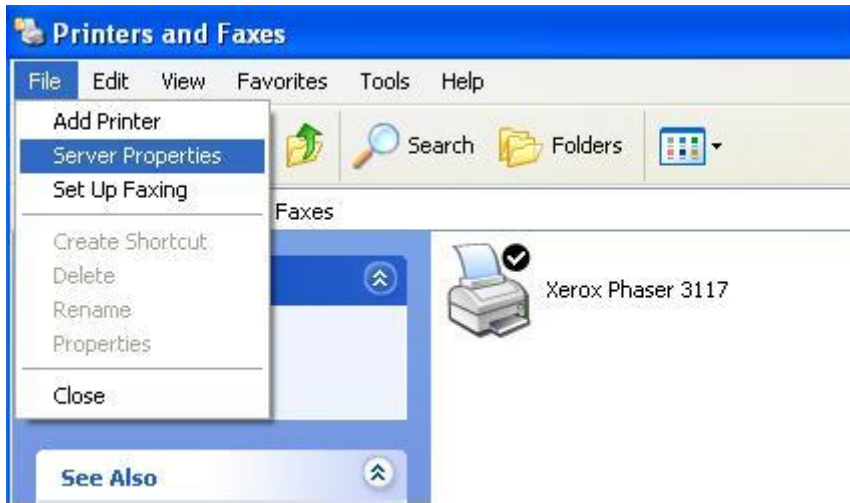
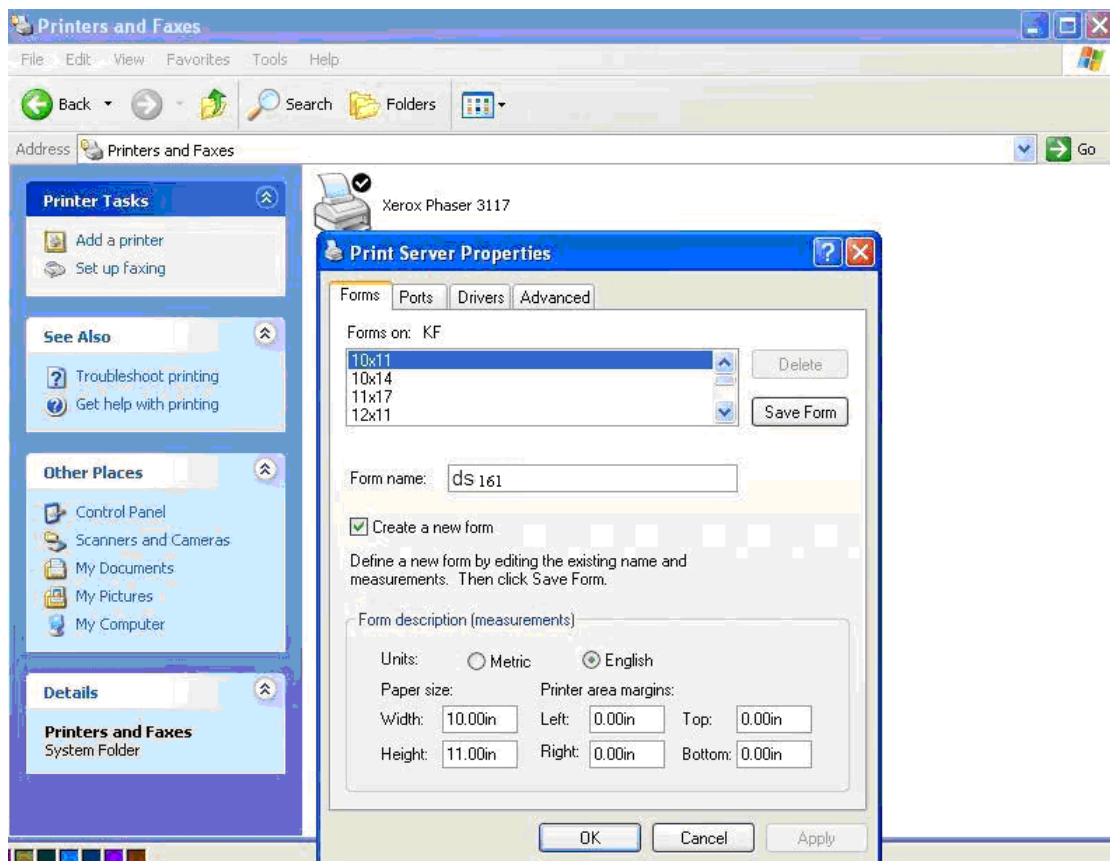

Figure 5-28
Figure 5-29
① Open “Control Panel \ printers and fax machines \ files \ server attributes”, as shown in Figure 5-28 as follows, Create a new form “ds-161” shown in Figure 5-29, e.g.: denominate the metric system, enter: length 25.4cm, height 11.00cm, confirm “save format”.